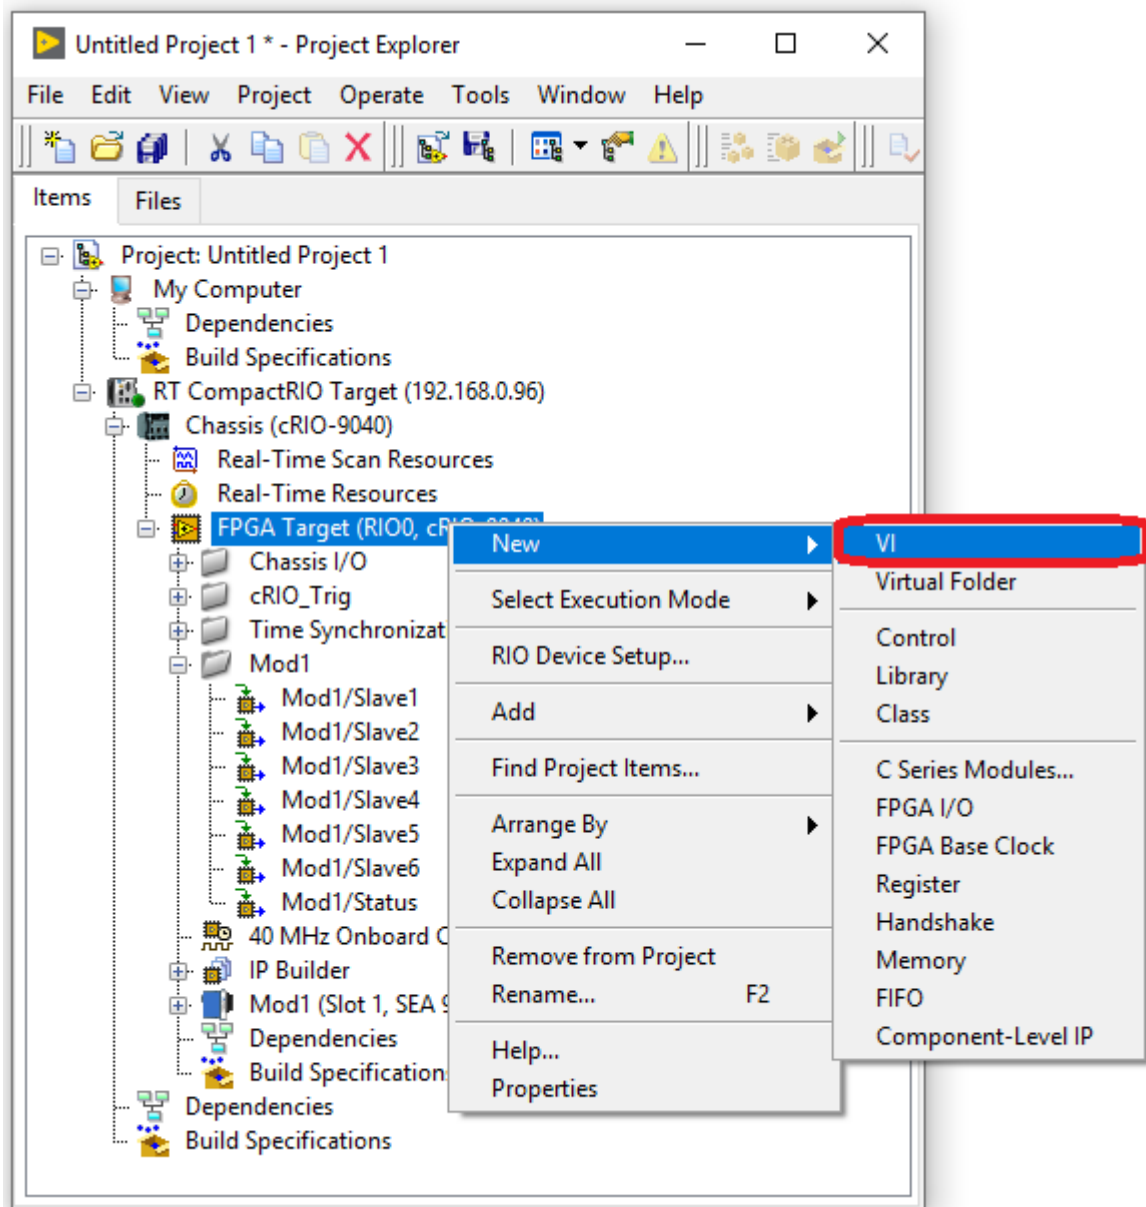

Fig. 4: Quick Start – Add new FPGA VI
11. Create a new FPGA VI in the project explorer window. For this right-click on the *FPGA Target (RIO0...)* and select *New* → *VI*. Refer to figure 4 below: